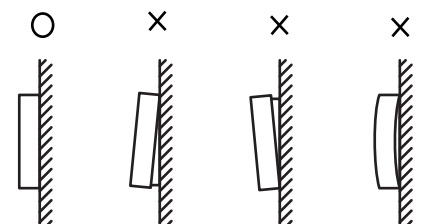

Fig.12
- Correct install the back cover and firmly buckle the front cover and back cover, otherwise will make the front cover drop off. (Fig. 12)